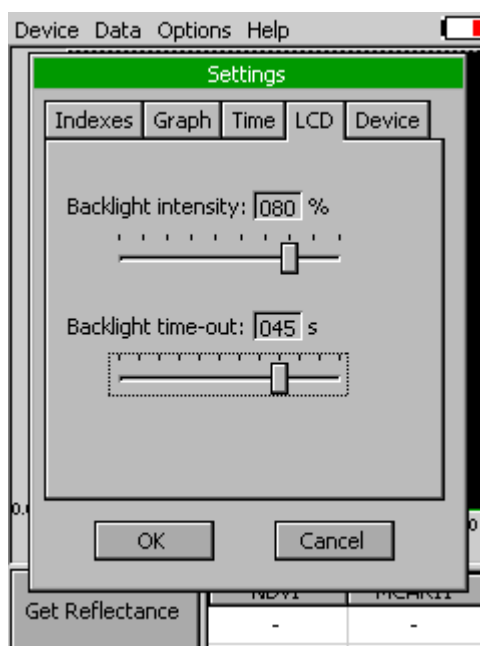

Fig. 13 Display intensity and time-out settings
- **LCD** – is used to adjust LCD display control settings (Fig. 13).